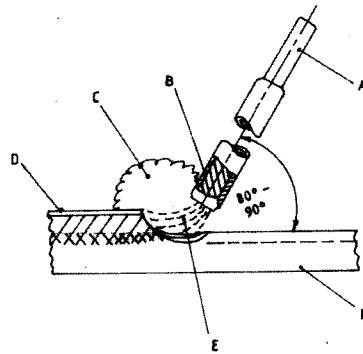

Fig. 2
**Figure 2** shows an arc welding set-up